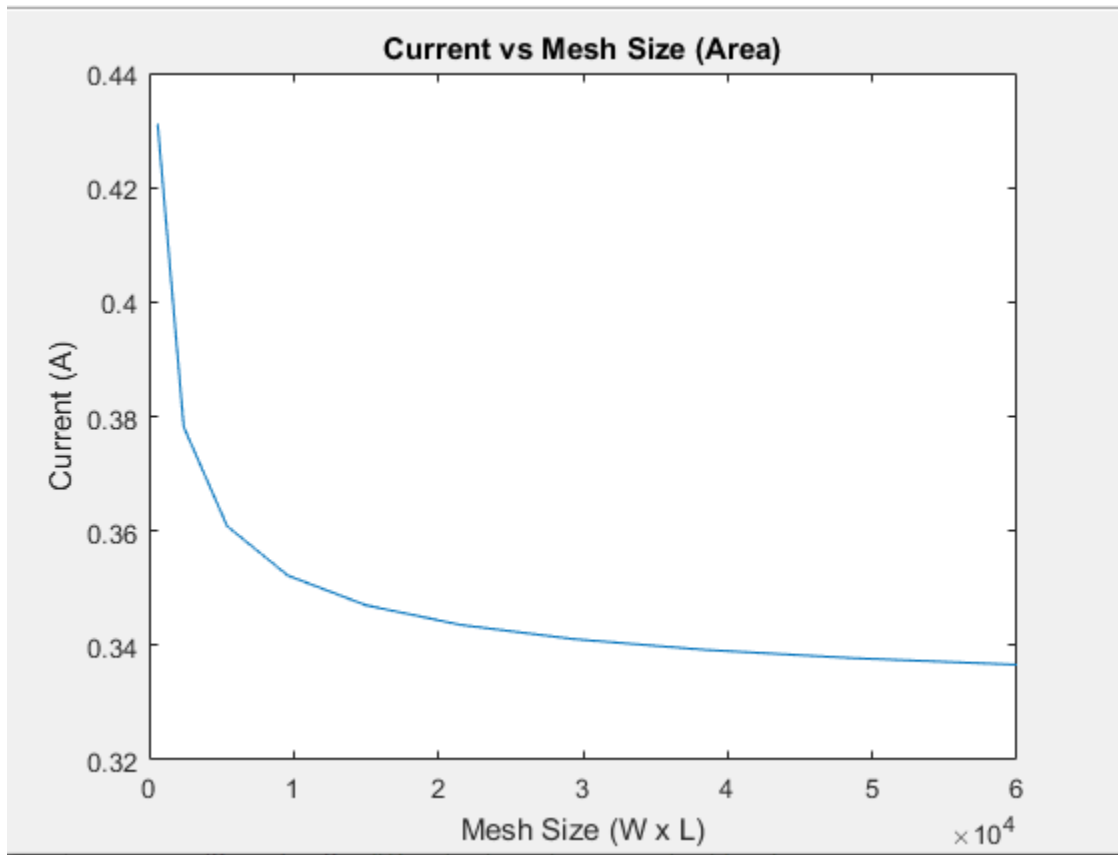

Figure 9: Current vs Mesh size (Area)
- b. The current value was observed to be decreasing with mesh size. In this part of the experiment, the mesh size was started with $(W, L) = 30, 20$. The mesh size was increased in 10 loops by adding 30 to the width and 20 to the length to maintain the desired $3/2$ ratio. Figure 9 below shows the graph of current vs mesh area: